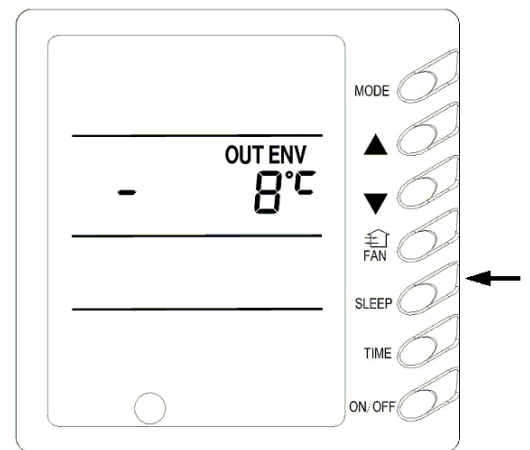

Fig.16
9) Outdoor ambient temp display (Fig.16)